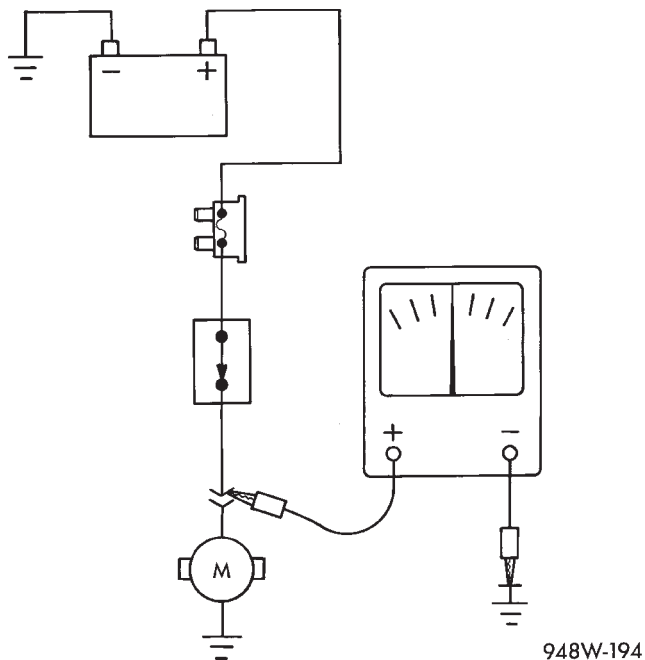

Fig. 4 Testing for Voltage Potential
- (1) Connect the ground lead of a voltmeter to a known good ground (Fig. 4).
- (2) Connect the other lead of the voltmeter to the selected test point. The vehicle ignition may need to be turned ON to check voltage. Refer to the appropriate test procedure.